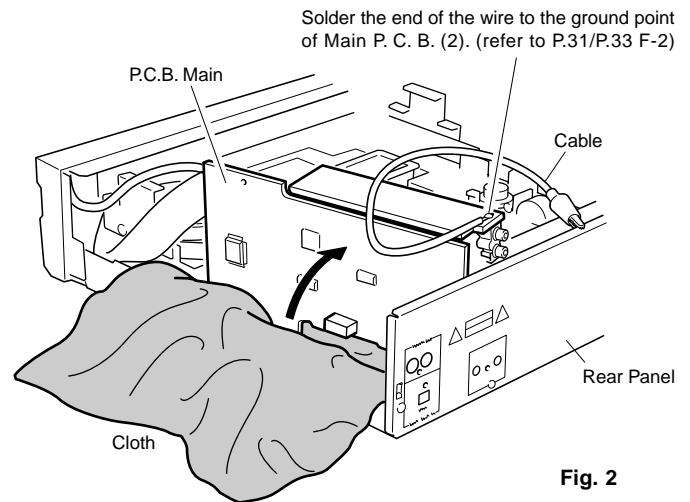

Fig. 2
- d. Remove 2 screws ( ② ) and 1 plastic rivet on the Main P.C.B. as shown in Fig. 2.
- e. Spread a cloth over the Main Chassis as shown in Fig. 2.
- f. Put the Main P.C.B. on end as shown in Fig. 2.
- g. Connect the ground point of Main P.C.B. (2) to rear panel by using wire as shown in Fig. 2.